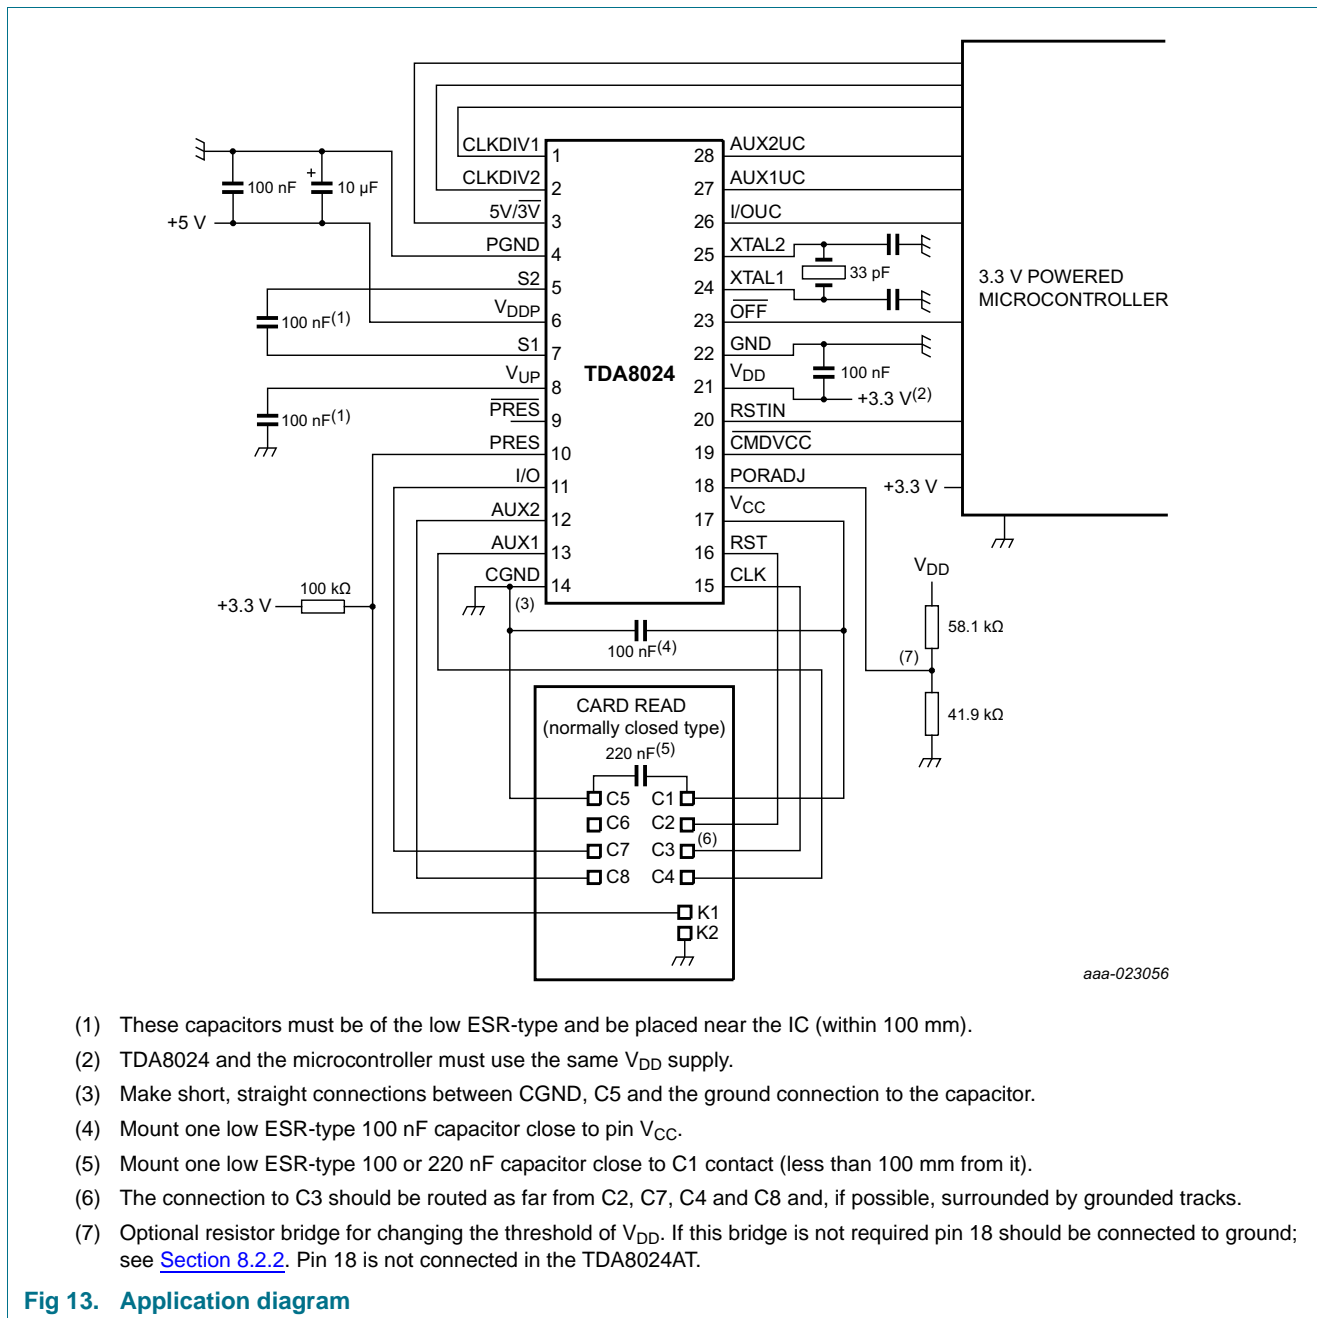

Fig 13. Application diagram
- [3] To meet these specifications, pin  $V_{CC}$  should be decoupled to CGND using two ceramic multilayer capacitors of low ESR both with values of 100 nF, or one 100 nF and one 220 nF (see Figure 13).